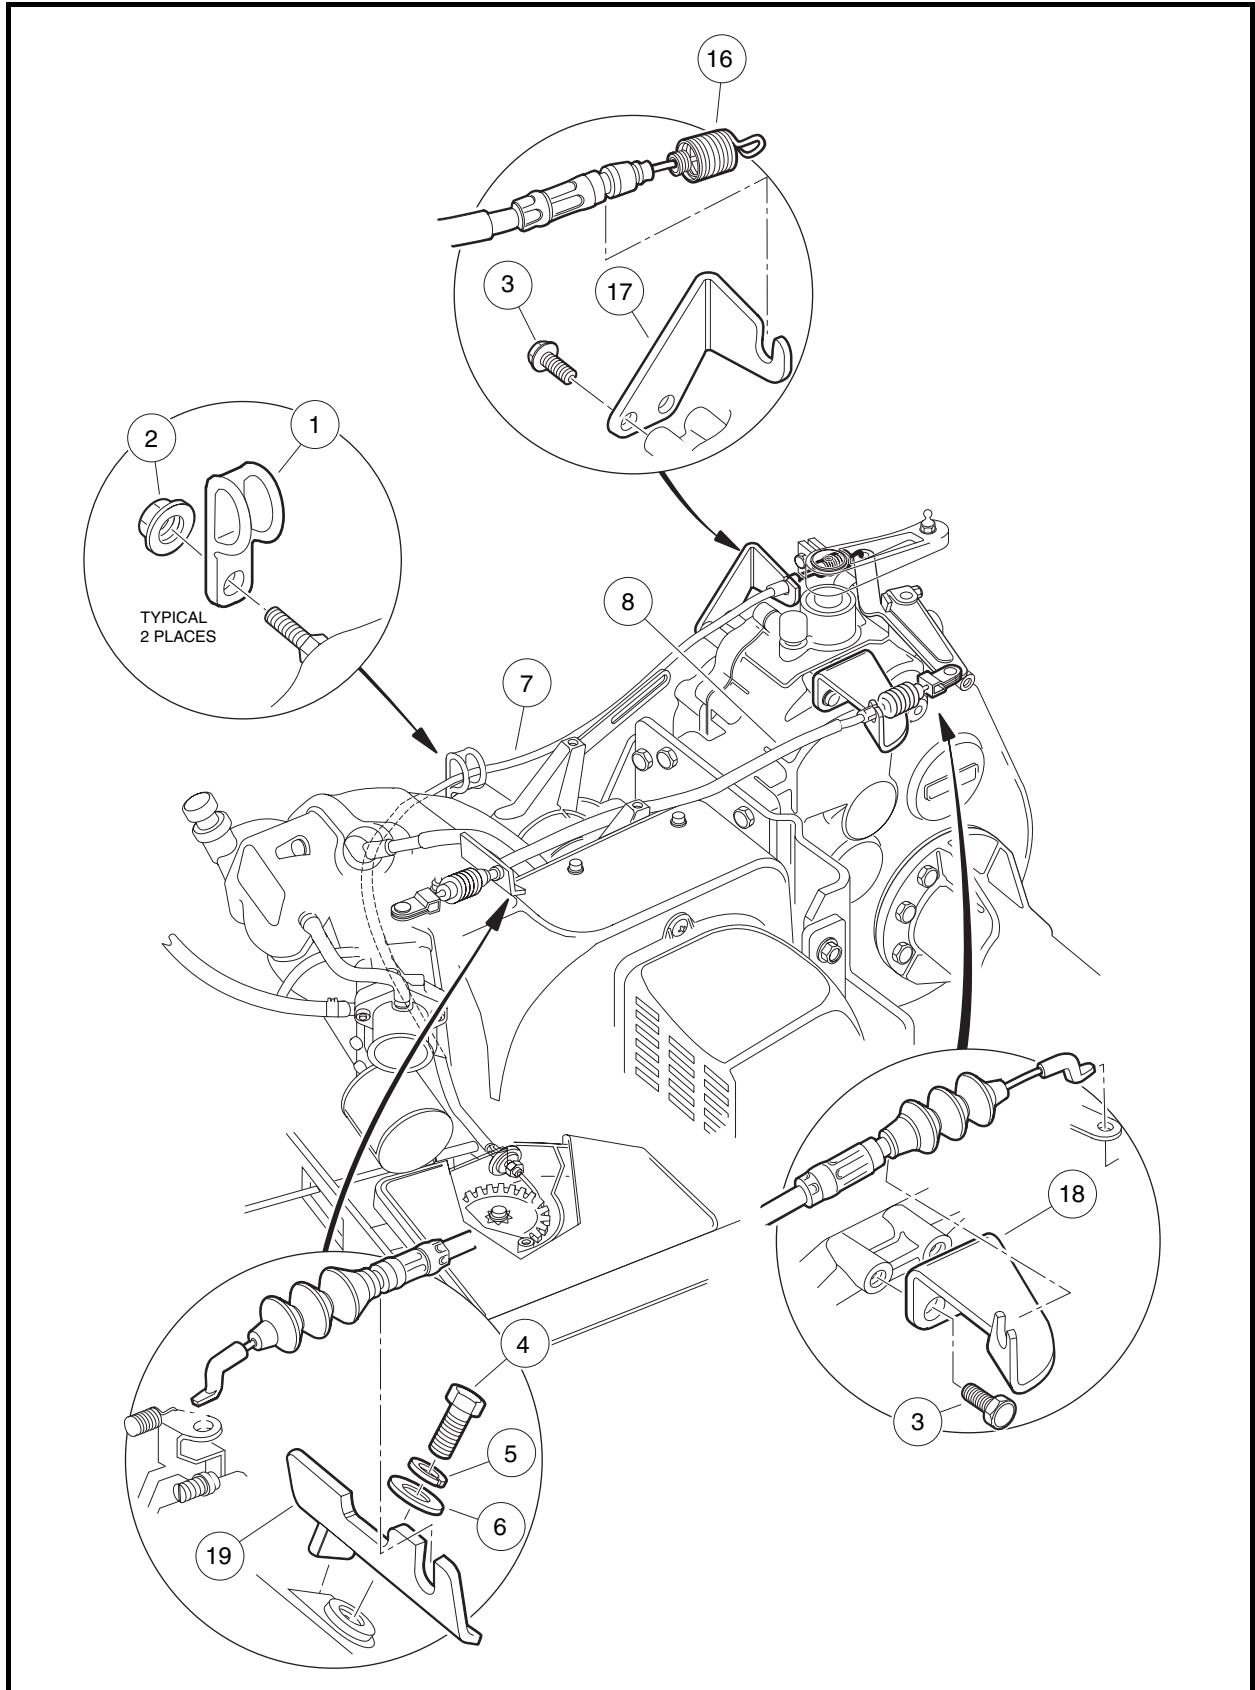

Figure 14-8 Governor and Accelerator Cables
2. Remove the governor cable (8) from the engine bracket (19) and lift the Z-shaped cable end from the carburetor throttle bracket (**Figure 14-8, Page 14-11**).
3. Remove the cable from engine bracket (18) and lift the Z-shaped cable end from the governor bracket.
1. Install the Z-shaped end into the governor bracket (18) and push cable down into bracket slot to secure. Be sure the bellows dust shield is attached (**Figure 14-8, Page 14-11**).
2. Install the Z-shaped end into carburetor throttle and push cable down into bracket (19) slot to secure. Be sure the bellows dust shield is attached.
6. Remove the accelerator cable (7) from the engine bracket (17) and lift the Z-shaped cable end from the bracket (**Figure 14-8, Page 14-11**).
7. Disconnect the spring (16) from the engine governor arm by rotating the arm counterclockwise one-half turn. Remove the cable assembly from the vehicle.
1. Connect the accelerator cable to the cam in the electrical box (**Figure 14-8, Page 14-11**).
3. Connect the spring (16) to the engine governor arm (**Figure 14-8, Page 14-11**).
4. Install cable (7) in accelerator cable bracket (17) and push down to snap into bracket slot to secure.